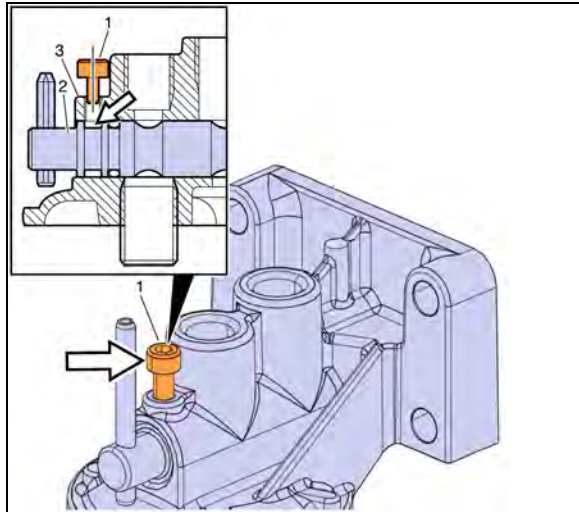

FIGURE 6: M5 HEX SOCKET SCREW
6. Loosen the M5 hex socket screw (1) in the coolant filter housing (3) until it clears the groove in the spindle (2) (Figure 6).